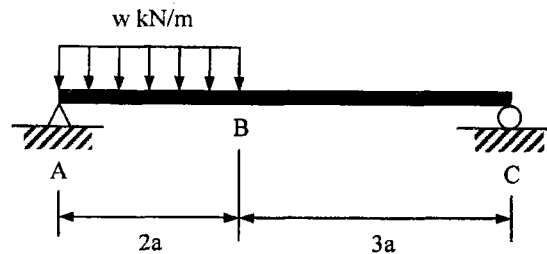

Figure 3 / Rajah 3
3. (a) Figure 3 shows a beam carrying a uniformly distributed load of w kN/m along segment AB. Determine the elastic curve and its equation for the beam using **double integration method**. Assume EI is constant.